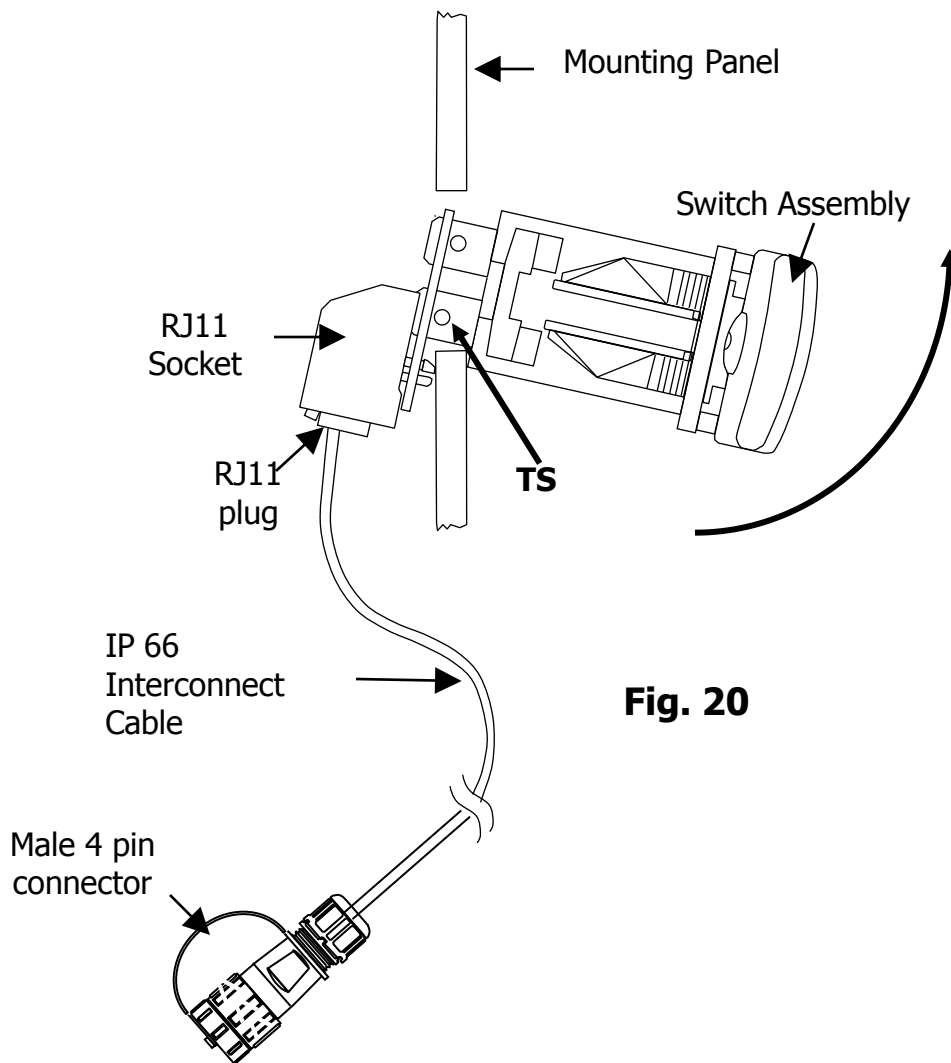

Fig. 20
- Rotate switch assembly into the slot as shown in **Fig. 20**